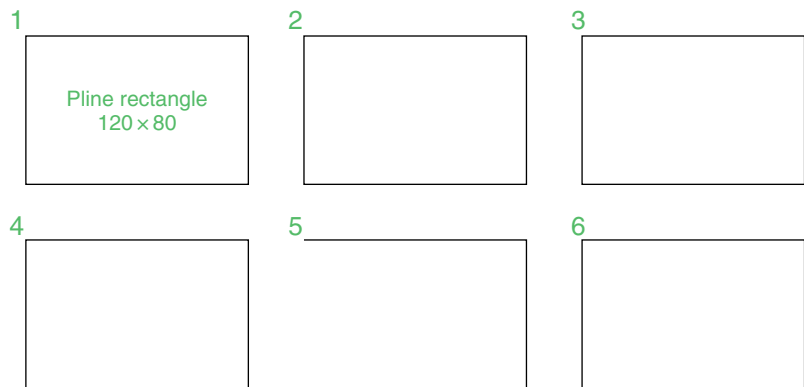

Fig. 3.28 Examples – **Edit Polyline** – the plines to be edited
First example – Polyline Edit (Figs 3.28 and 3.30)
1. With the **Polyline** tool construct the outlines **1** to **6** of Fig. 3.28.